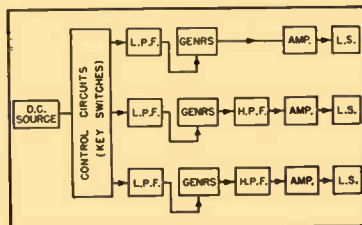

Figure 1
L. E. A. Bourn of Ashford, England, has a helpful idea for designers of instruments in which d.c. is used to control tone generation in this way. His patent is No. 2,507,884 and its workings are very simply illustrated by the block diagram in Fig. 1.